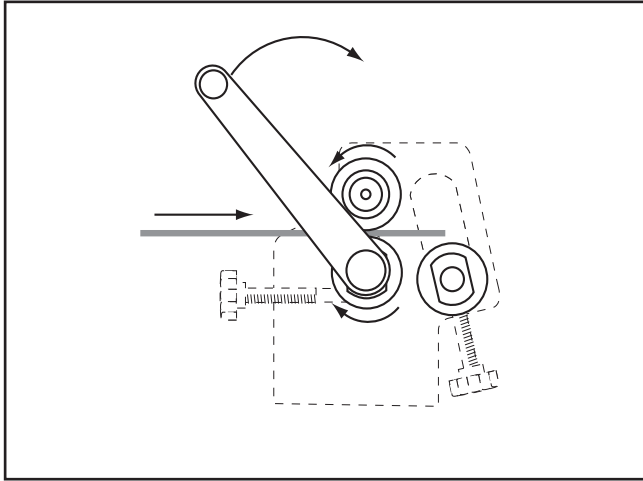

Figure 19. Feeding the workpiece.
- Turn the crank clockwise to feed the workpiece until its edge is directly above the rear roller, as shown in **Figure 19**.